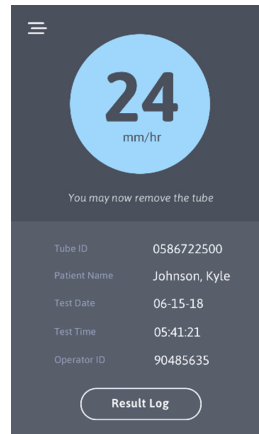

Figure 15
- When testing is complete, the tube is returned to the loading port for retrieval and the test result is displayed on the touch screen (Figure 15).